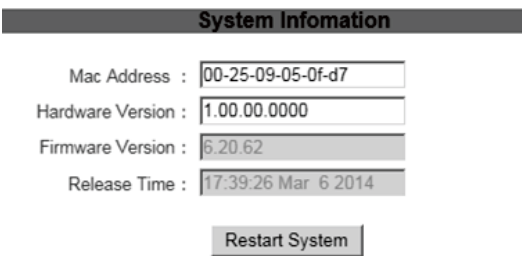

Figure 32
10. Click "System", click "Restart System" button(Figure 32), when it appears "for about 10s", the set up complete(Figure 33).